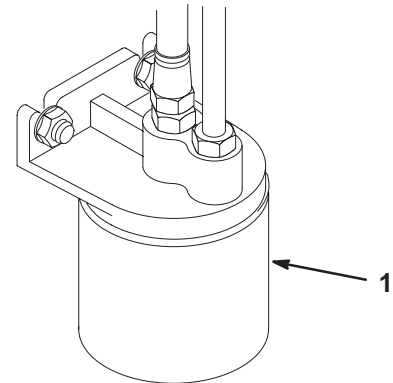

Figure 44
3. Place a drain pan under the filter, remove the old filter, and wipe the filter adapter gasket surface clean (Fig. 44).